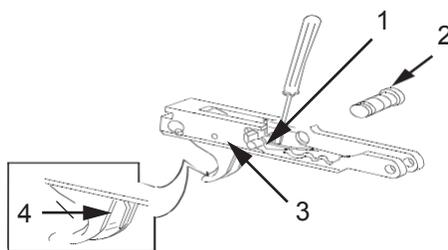
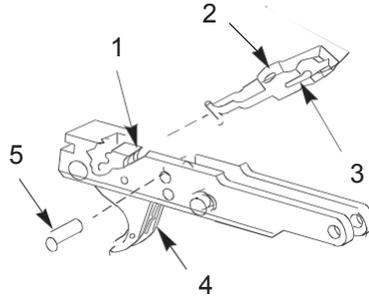

Figure 6. Safety and Trigger Housing.
Figure 7. Sear and Trigger Housing Installation.
When properly assembled, bottom leg of sear spring must be behind the trigger and spring pin (Figure 6, Item 4).
6. Compress retaining spring (Figure 6, Item 1) and install safety (Figure 6, Item 2) in trigger housing (Figure 6, Item 3) with red ring end to the left. using small flat-tipped screw.
7. Pull trigger (Figure 7, Item 4) to rear to insert sear (Figure 7, Item 2), and hold sear sideways to insert into tripping lever slot (Figure 7, Item 1). Give 1/4 turn to hold in place with spring slot (Figure 7, Item 3) down.
8. Align holes in sear (Figure 7, Item 2) and trigger housing (Figure 6, Item 3) and push in headless straight pin (Figure 7, Item 5).